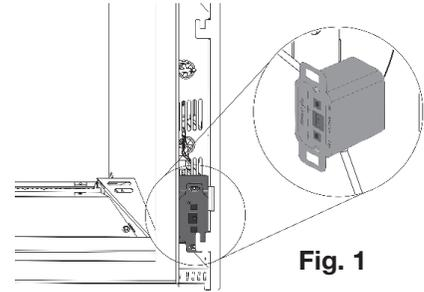
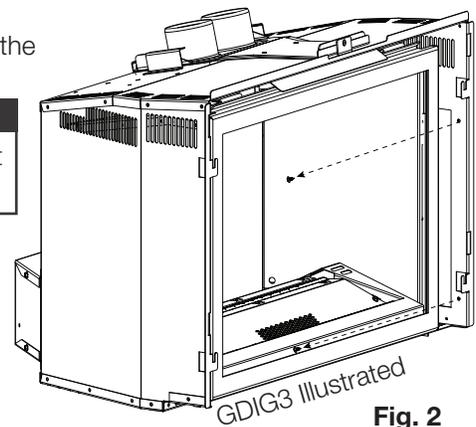

Fig. 1
Fig. 2
4 AA batteries must be installed into the receiver before the appliance can operate by battery backup. The receiver is located in the bottom right corner of the appliance (**Fig. 1**).
2. Remove the front 2 screws from the inside edge (**Fig. 2**) and swing the control door open.
2. Remove the 1 screw holding the bracket in place (**Fig. 1**). Lift the bracket up and out of the slots, lifting it through the opening between the firebox and the appliance's outer shell (**Fig. 2**).
4. Place the bracket and receiver back through the opening between the firebox and the appliance's outer shell. Slide the bracket and receiver into and down the slots (**Fig. 2 in reverse**).
5. Resecure the 1 screw to hold the bracket and receiver in place (**Fig. 1**).